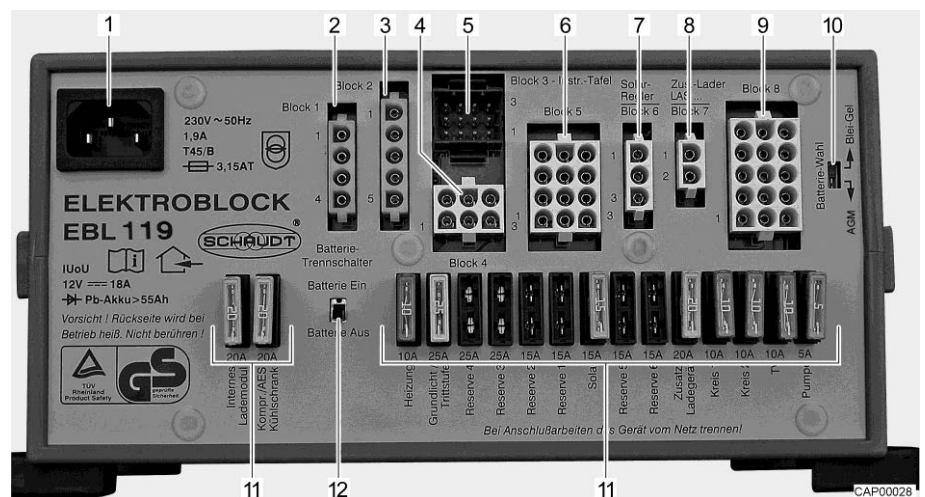

Fig. 190 Transformer/rectifier (EBL 119, as an example)
- ▷ Except for the battery selector switch (Fig. 190,10), the transformer/rectifier EBL 99 and the transformer/rectifier EBL 119 have the same design.